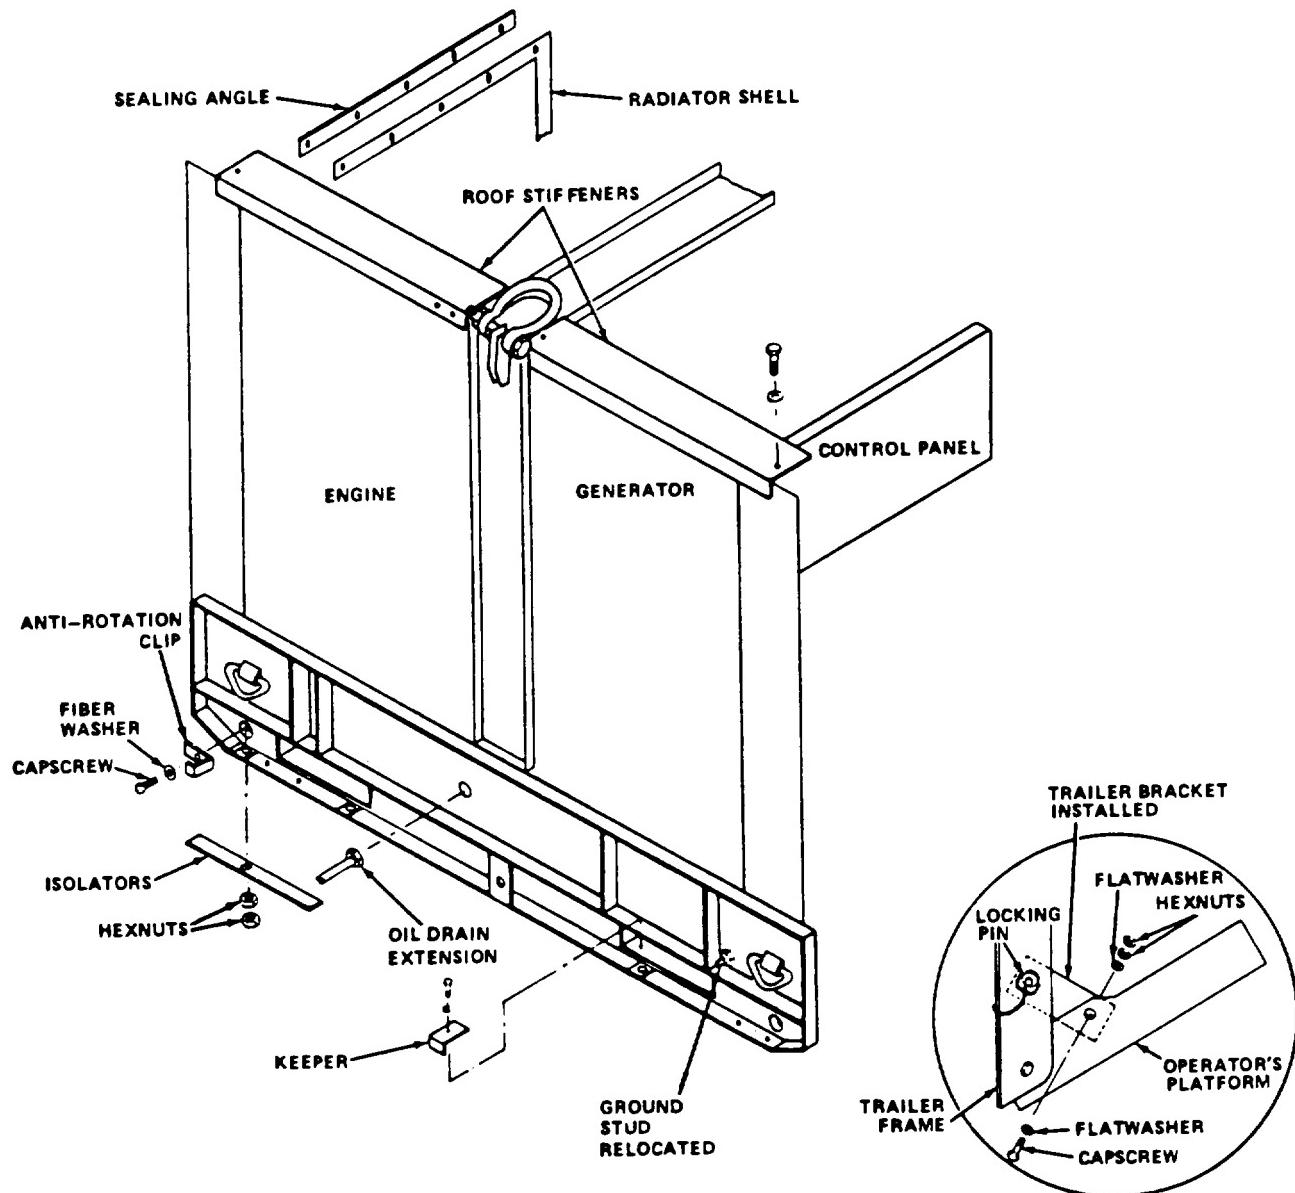
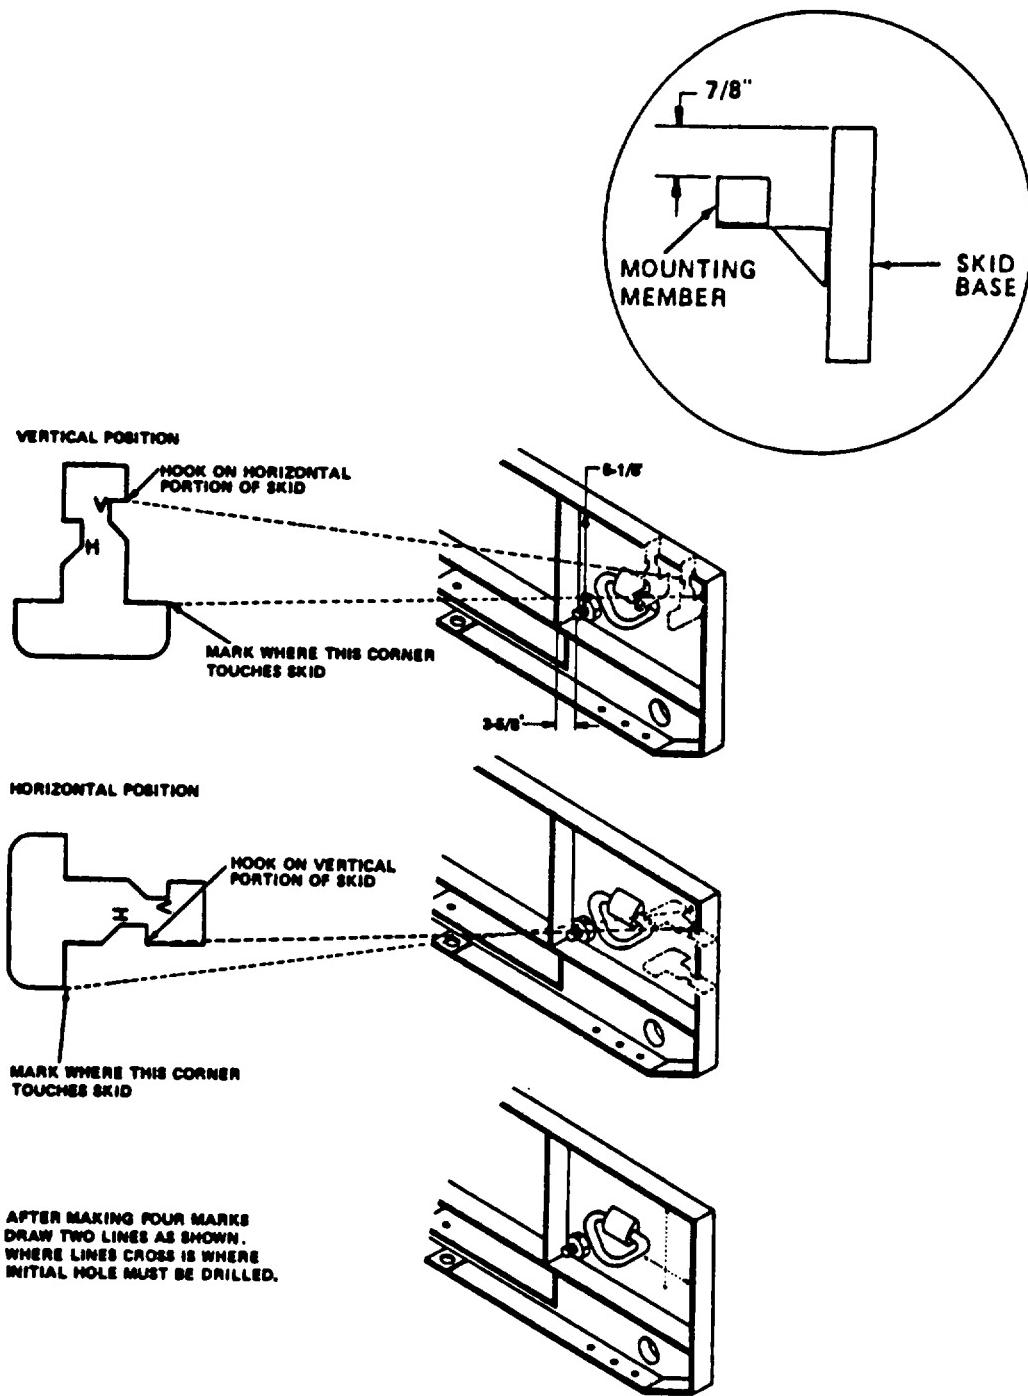
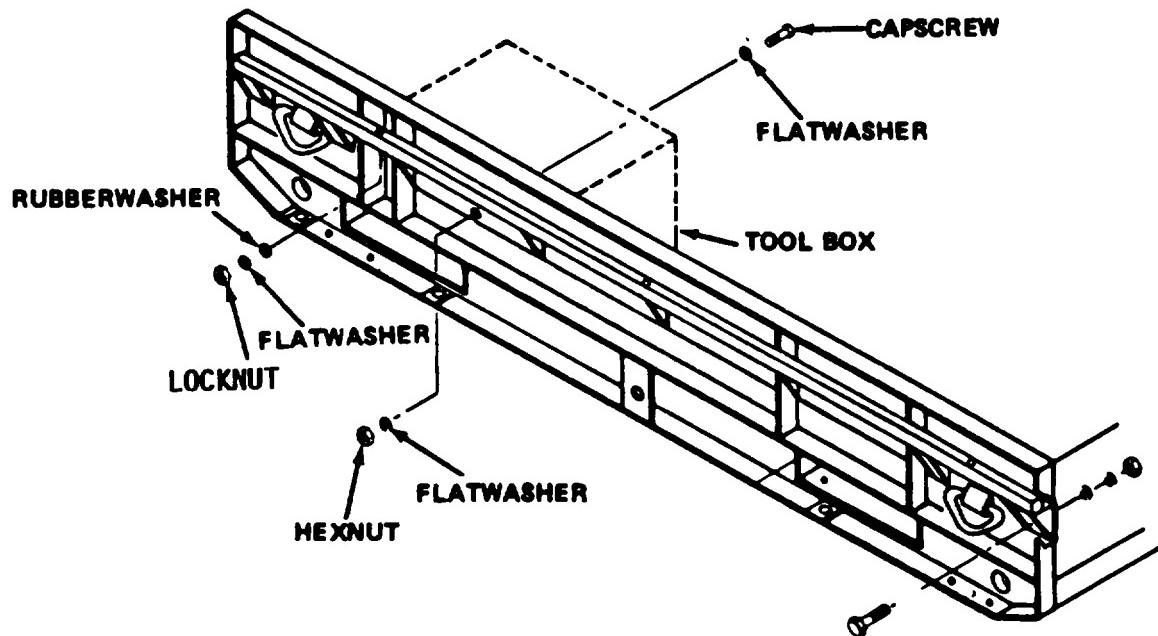

Figure 5-34. Roof Stiffeners, Sealing Angle, Oil Drain, Isolators, Bottom Panel Tray Assembly, and Trailer Brackets
Figure 5-35. Hole Locations on Skid Base Assembly
Figure 5-36. Mounting Hardware and Hole Location for Side Panel Assembly
- (3) Locate left rear tiedown on skid base. Remove ground stud. Measure 5-1/8 inches down from lip of skid base, and 3-5/8 inches from vertical lip of skid base. Center punch where two lines meet. Refer to figure 5-35. Using ground stud as a guide, drill two holes in skid base. Install ground stud in holes. Remove ground plate and install under ground stud. (Refer to figure 5-34.) It maybe necessary to remove wire ties from the ground wire wiring harness to attach the ground wire to the ground stud.
Location of first hole is critical. Read steps(1) thru (4) and study figure 5-35 carefully before marking and drilling first hole. Failure to observe this caution could result in equipment damage.
- (1) Using template supplied with acoustic suppression kit in vertical position, mark rear of skid base in two positions. (Refer to figure 5-35.)
- (2) Using template in horizontal position, mark rear of skid base in two positions. (Refer to figure 5-35.)
- (3) After making four marks, draw a vertical and horizontal line through the marks. (Refer to figure 5-35.)
- (4) Where lines cross, drill a 1 /2-inch hole. (Refer to figure 5-36.)
- (5) Position mounting member on skid base, and install the capscrew, flatwashers, lockwasher, and nut.
- (6) Position the mounting member until it is parallel to the top of the skid base. Mounting member's top surface should be 7/8 inch lower than top of skid base. (Refer to figure 5-36.) Use a C-clamp to hold mounting member in position.
- (7) Measure mounting member along skid, and using mounting member as a template, drill end hole, and install capscrew, washers, lockwasher, and nut. Measurement from top of mounting member to top of skid base bar must be 7/8 inch before holes are drilled. (Refer to figure 5-35.)
- (8) Drill holes and install remaining capscrews, flatwashers, lockwashers, and nuts on mounting member. Heads of capscrews must be outside of skid. (Due to location of tool box, one capscrew must have head positioned in tool box.) (Refer to figure 5-36.) This capscrew is longer than other capscrews. Do not tighten capscrews.
- (9) Repeat steps (1) thru (5) for mounting member on other skid.
- (10) Remove oil drain plug. Install fitting, hose, and clamp supplied with acoustic suppression kit.
- (11) Position roof stiffeners and sealing angle on generator set. Install hexhead capscrews and lockwashers to secure roof stiffeners. Do not tighten cap-crews on sealing angle. (Refer to figure 5-34.)
- (12) Using a suitable lifting device, raise generator set and place 6"x6" blocks under skids. Lower generator set onto blocks.
- (13) Grease inside of generator set skids with grease (GAA).
- (14) Using a suitable lifting device, raise generator set, remove 6"x6" blocks, and place 2"x4" blocks under skids of generator set. Lower generator set onto 2"x4" blocks. Ensure blocks are under skids only. Do not remove tension from lifting device.
- (15) Slide bottom tray under generator set. Ensure weld nuts are positioned in down position. Weld nuts should be centered on fork lift tunnel holes.
- (16) Raise bottom tray assembly, and install keepers, washers, and capscrews to secure one side of bottom tray assembly. (Refer to figure 5-34.)
- (17) Raise generator set, and remove 2"x4" blocks. Place a 1 "x4" block under bottom tray assembly on other side and slowly lower generator set to push bottom tray assembly into position. Rubber must not bend or be allowed to tear loose when generator set is lowered.
- (18) Install keepers, washers, and capscrews to secure the bottom tray assembly. (Refer to figure 5-34.)
- (19) Raise generator set, and remove 1"x4" block. Lower generator set and remove lifting device.
- (21) Install three rubber washers, three flatwashers, and three locking nuts supplied with kit in bottom of side panel. Ensure rubber flaps are flat against radiator and are pointed forward. Remove plastic plug and feed oil drain hose through side panel hole. (Refer to figure 5-36.)
- (22) Remove lifting sling from side panel.
- (23) Repeat steps (20) thru (22) to install other side panel.
- (1) Raise side panel skirts, and install ground wire. Install anti-rotation clips and fiber washers on capscrews, and install capscrews. Lower side panel skirts.
- (2) Glue isolators on skid base or surface of trailer. (Refer to figure 5-34.)
- (3) Lower generator set onto trailer. Attach ground wire to trailer.
- (4) Install washers and nuts on capscrews to secure generator set.